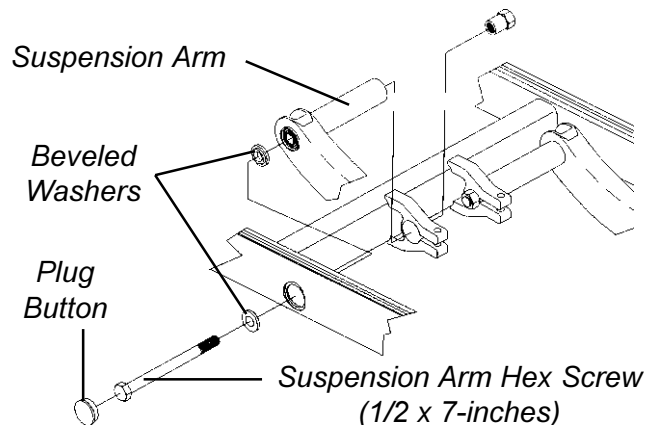

FIGURE 15 - REPLACING SUSPENSION ARM FOR WHEELCHAIRS WITH MOTOR/GEARBOX ASSEMBLY
**REPLACING SUSPENSION ARM FOR WHEELCHAIRS WITH MOTOR/GEARBOX ASSEMBLY (FIGURE 15)**